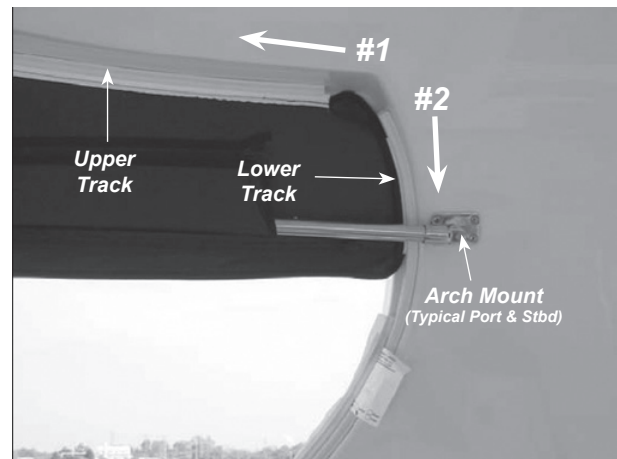

Figure O8: Upper & Lower Tracks and Arch Mount
- 1) Orient the canvas top to match the orientation of the hard top. Ensure the interior seams will be facing inside. Starting at either end, thread the opposite end of the canvas through the upper track of the hard top (#1). Continue feeding the canvas all the way through the track until completely threaded. Feed ends of canvas top into the lower track running down the hard top (#2). See Figure O8. Once the canvas top is installed in the tracks, allow it to hang in place.
- 2) Attach the stainless steel bow to the port and starboard arch mounts using an adjustable wrench. See Figure O8.